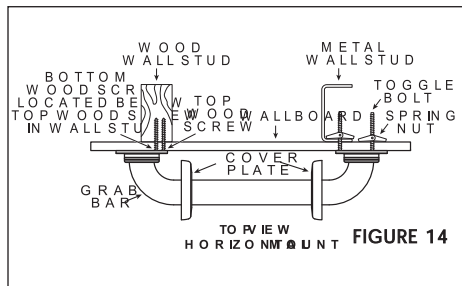

FIGURE 14
- On the end that will be installed into metal wall stud, use the 3/8-inch power drill and 5/8-inch drill bit to drill three (3) holes where marked. NOTE: *If installing Grab Bar over ceramic tiles, the 7/8-inch carbide drill bit will be needed for drilling through tile, in order to prevent damage to tiles. Once a hole has been drilled through the tile, use the 5/8-inch drill bit to drill through the backing support for the tile.*
- Insert one (1) WOOD SCREW into the end of the Grab Bar that will be installed into the wood wall stud. Screw into wall and wall stud (HAND TIGHTEN ONLY) (see Figure 14).
- Position the end of the Grab Bar with the TOGGLE BOLTS attached so that you can push the spring nuts and butt ends of the TOGGLE BOLTS through the holes that have been drilled. The spring nuts must be completely through the holes in the wall (see Figure 14).
- Pull the TOGGLE BOLTS toward you and finger tighten the BOLTS to be sure that spring nuts have opened fully against the back side of the wall and metal wall stud (see Figure 14). If the spring nuts have not opened fully, loosen the bolts and repeat Step 8.
- Repeat Step 5 for the remaining two (2) WOOD SCREWS going into the wood wall stud.